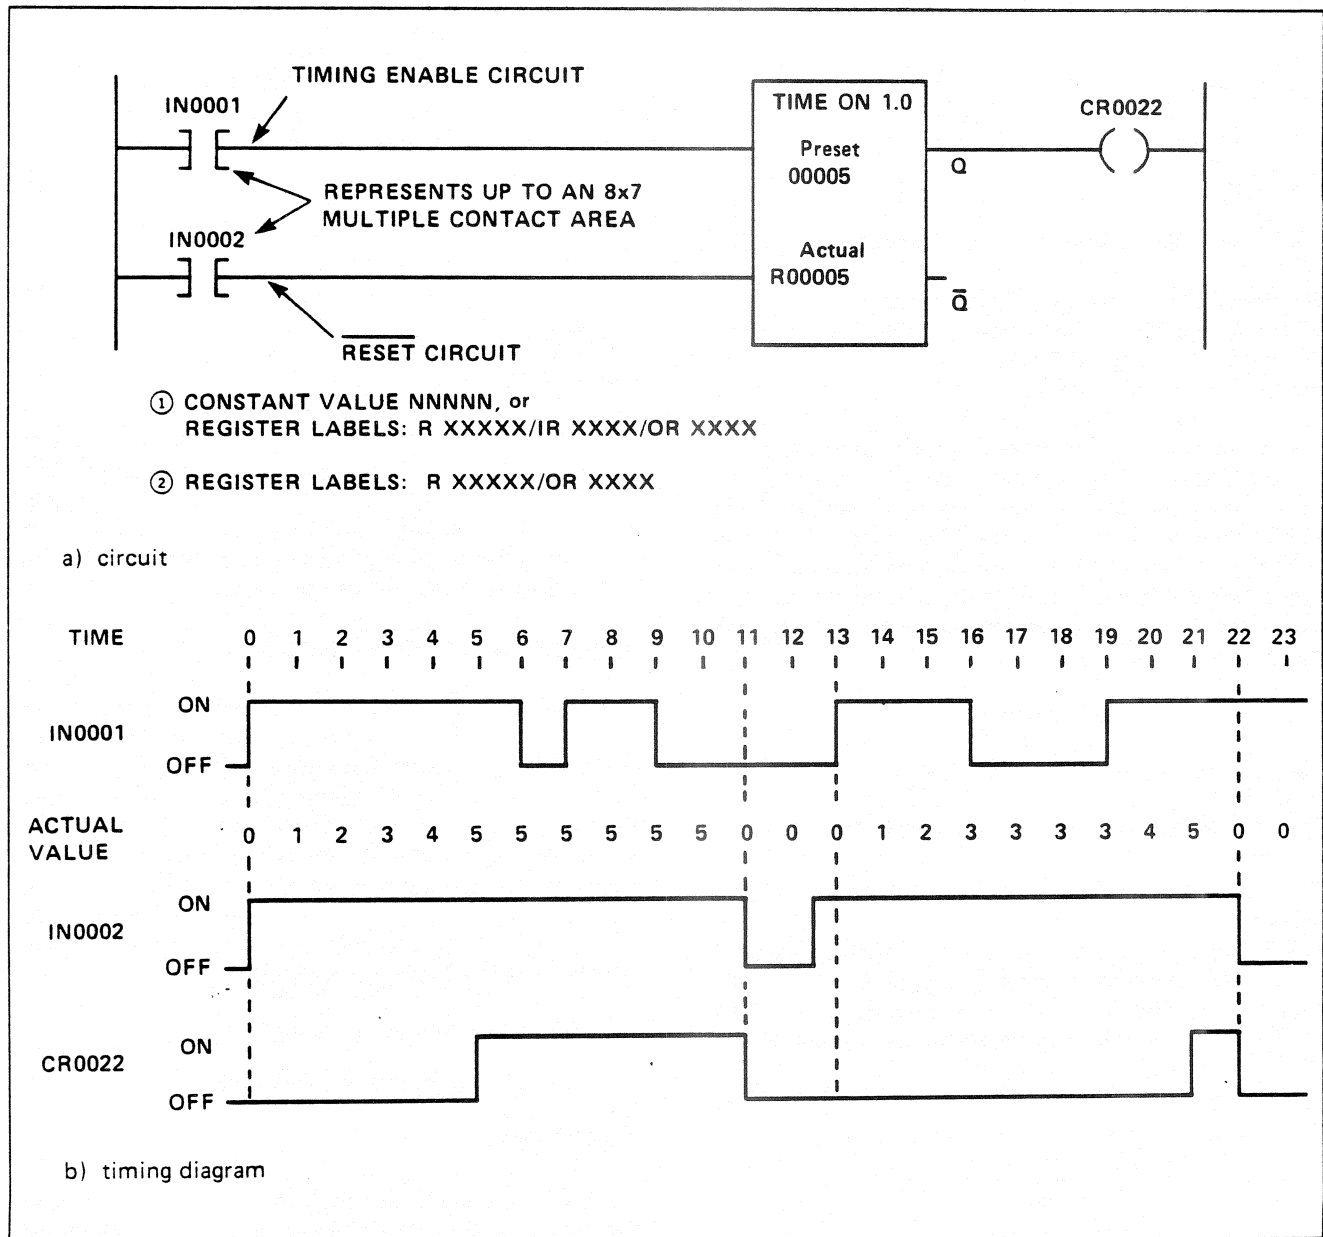

Figure TMR-2. Time On Function Circuit (Typical)
on-delay timing function. The 3 different Time On functions operate identically except that the time increments and their associated timing ranges vary, as shown in Table TMR-1. An example of a typical Time On function circuit is shown in Figure TMR-2. Observe the Figure and note the following 3 points:
times 11 and 22 of Figure TMR-2. These are zero.
3. The Q output conducts when the Actual Value equals or exceeds the Preset Value. See Actual Value times 5 thru 11 and 21 and 22 of Figure TMR-2. In this example the Q output is used to control coil CR0022.